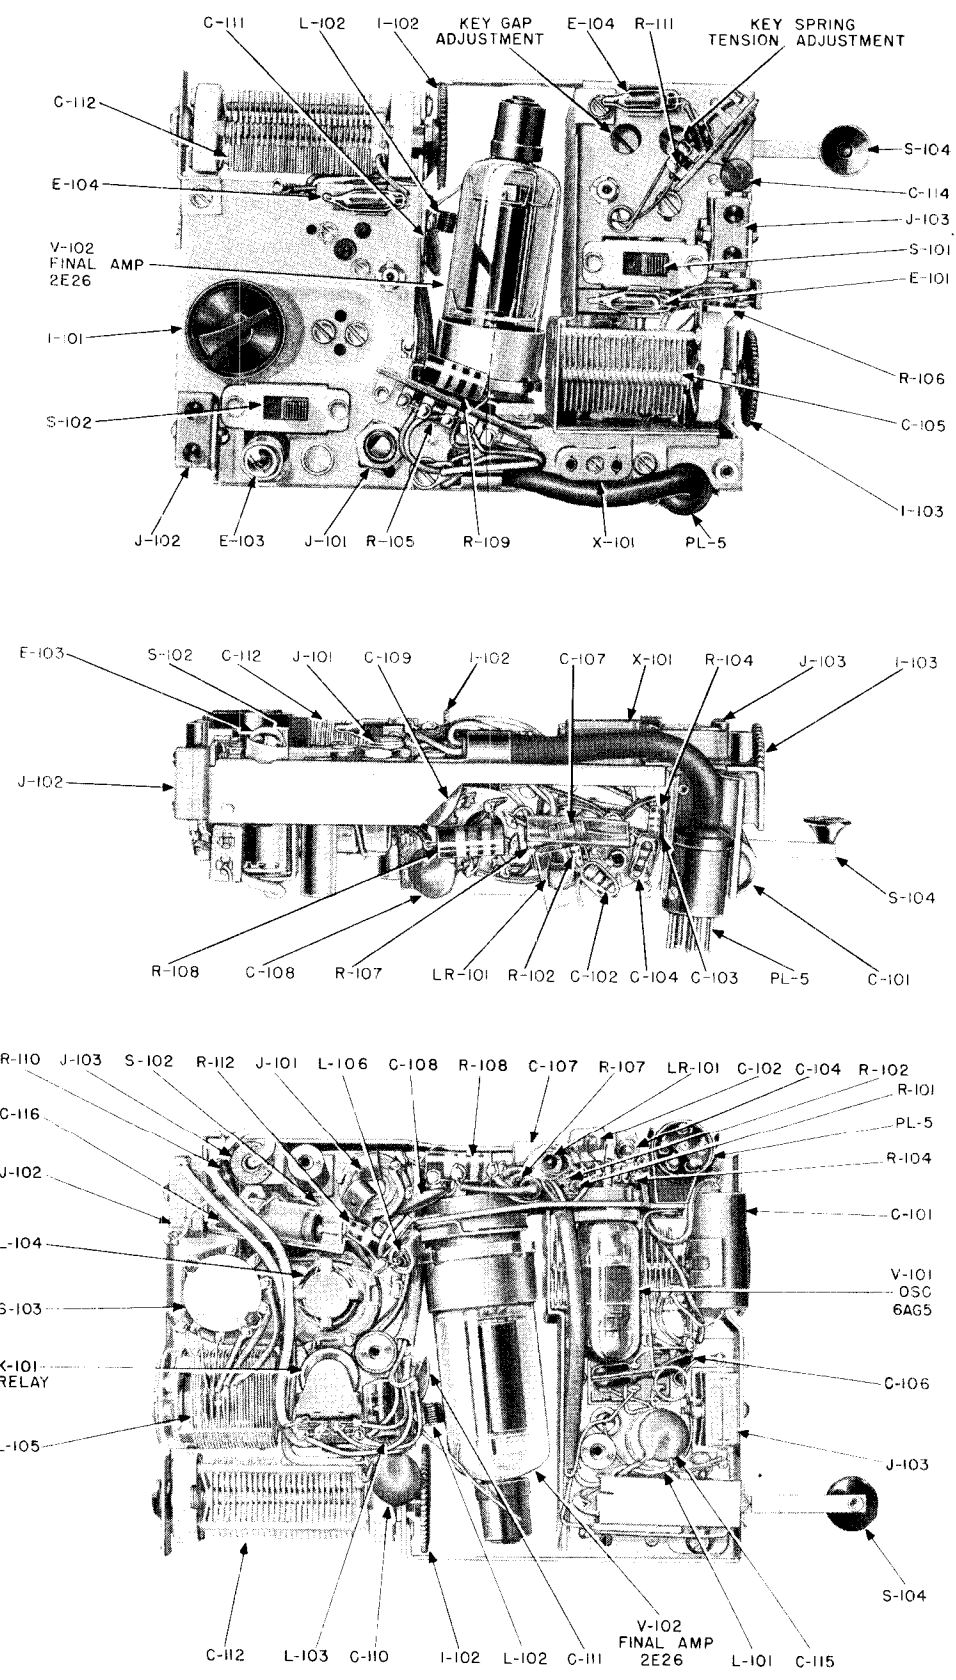

Figure 19. Transmitter RT-6, parts location.
a. The sending key spring tension adjustment is the screw below the chassis nearest the knob of the sending key shown in Figure 19. The preferred degree of spring tension depends upon the operator. The spring tension should be sufficient to open the key immediately when the pressure is released and yet not so great as to require the expenditure of unnecessary energy.
b. The sending key gap adjustment is the screw on the chassis to the rear of the spring tension adjustment screw. See Figure 19. If the gap between the contacts is too narrow, it will result in a jittery style of sending. If the gap is too wide, a sluggish sending style will result. A good gap separation is approximately .025 inches.